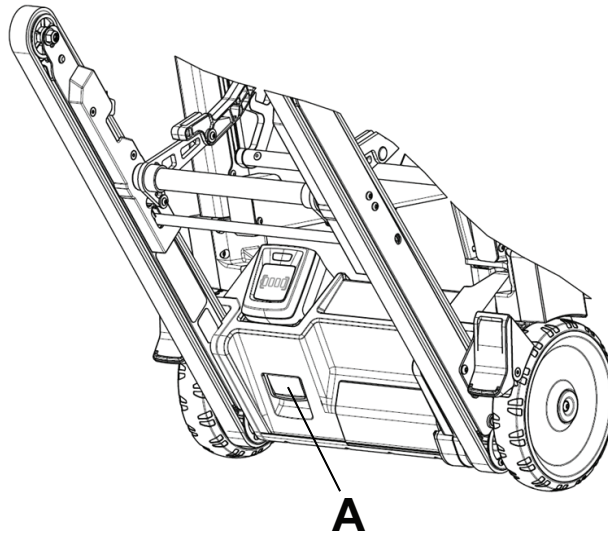

Figure 10 – Battery release latch
1. Pull the red battery release latch (A) toward you to release the battery from the product (Figure 10).